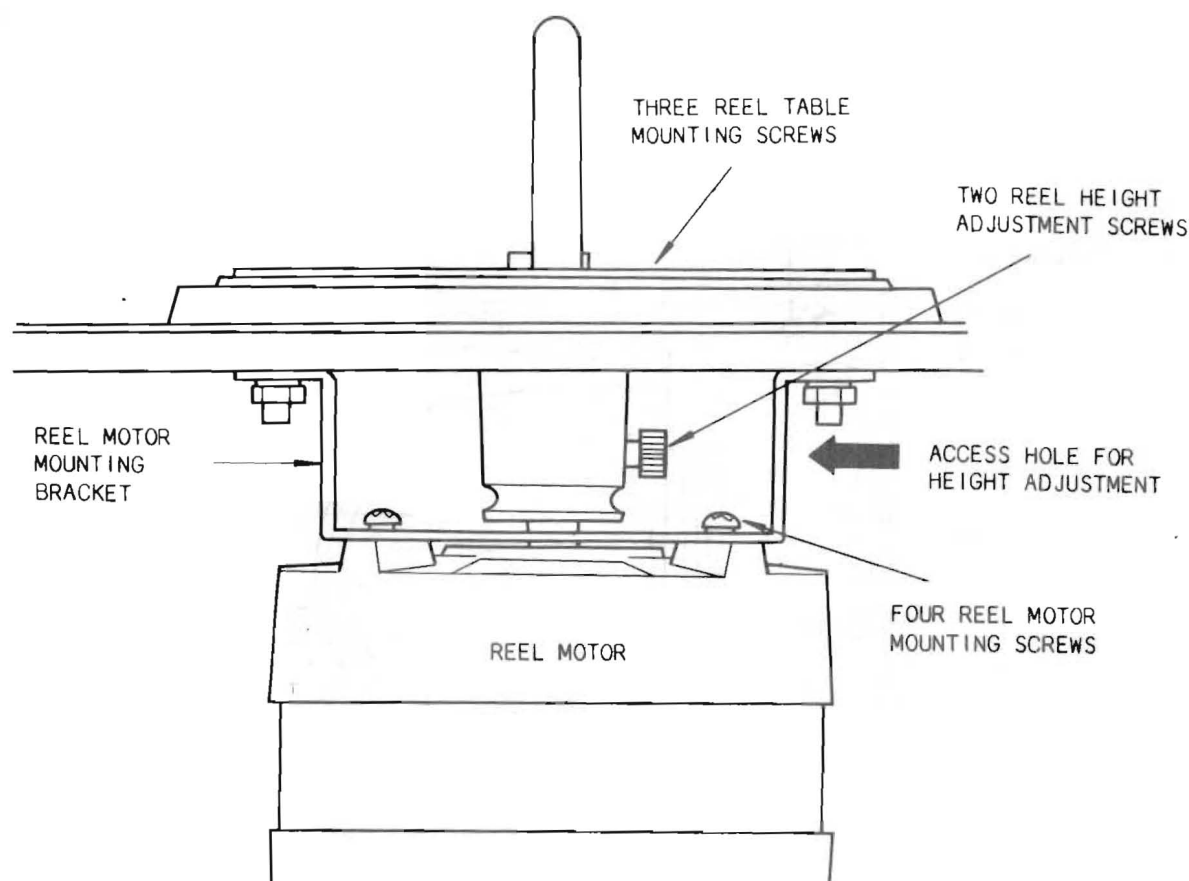

Figure 8-1 Reel Motor Mounting
To adjust the reel table height, loosen the two hex socket head screws in Figure 8-1, adjust the height and retighten the screws.
1. Loosen the two hex socket head screws on the reel shaft holder (Figure 8-1) and remove the reel table and holder.